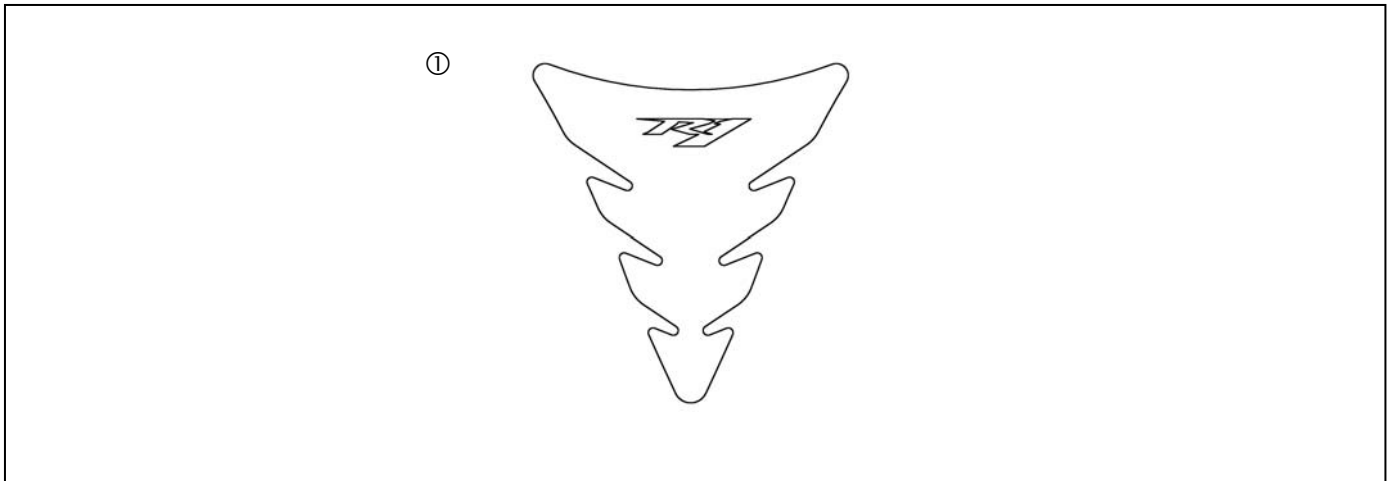

Fig. 1
2. Place the bottom edge of the tank pad on fuel tank. Use light pressure to adhere pad in place (Fig. 1).